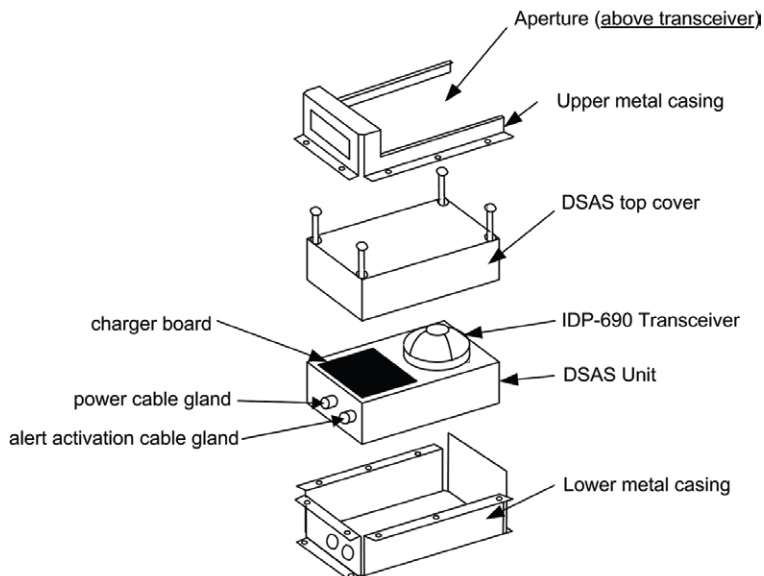

Figure 4 - DSAS Mk2 exploded view
7. Replace the plastic lid of the unit and screw it down well to ensure a watertight seal, being careful not to over tighten. Then bolt on the top of the metal casing, ensuring that the cut-out portion is above the satellite transceiver as shown in Figure 4.